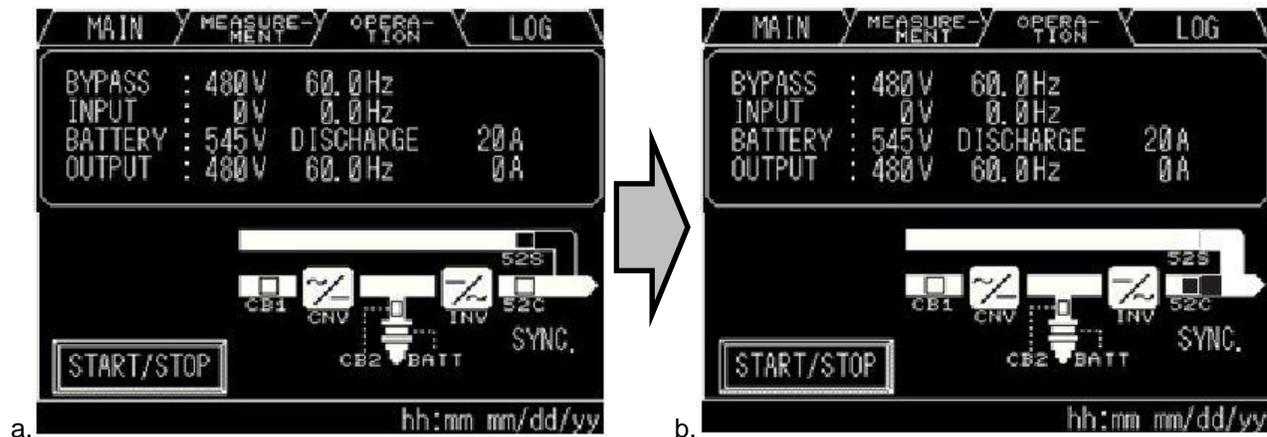

Figure 5-23 Transfer from Online to Bypass
- The UPS transfers to Bypass. (Figure 5-23) The Bypass contactor (52S) closes and the Inverter contactor (52C) opens. (Figure 5-23b)